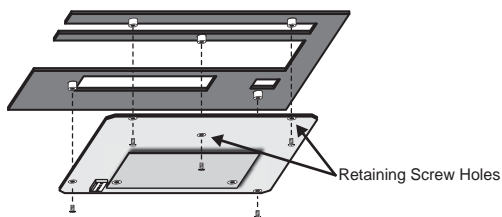

Figure 5 *Crosspoint Module Alignment*
2. Align the **Crosspoint** module so the **Retaining Screw Holes** on the Crosspoint module line up with the mounts on the control panel top (**Figure 5**). The **Crosspoint** module with Display can only fit into the first slot from the center.